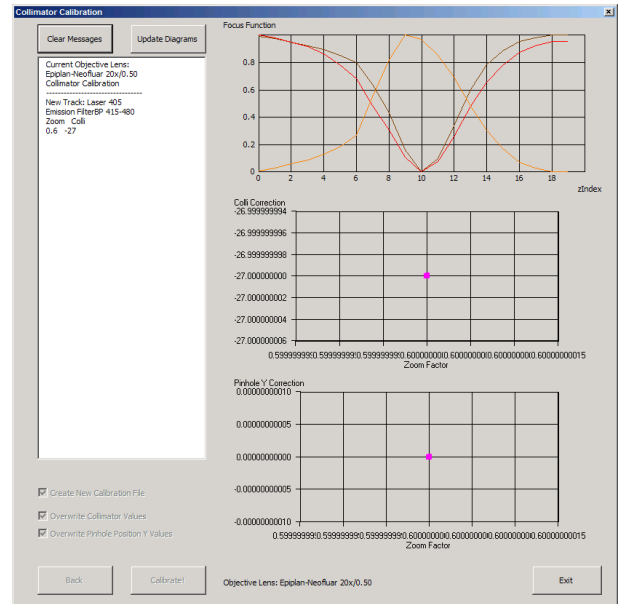

Fig. 5-14 Running the Calibration Matrix
- This window provides three check boxes (Fig. 5-14)